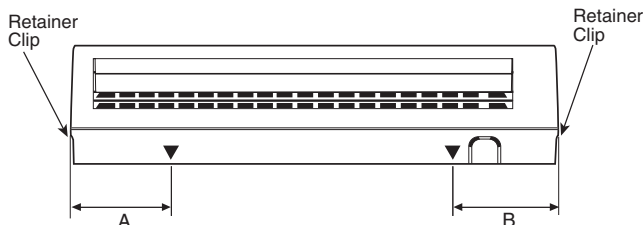

Fig. 11 — Wall Hanging Details
3. Fix the bottom part of the unit to the wall hanging bracket by pushing it carefully until the two bracket hooks fit into the marked places at the base of the unit until it snaps into place. Refer to Fig. 11.